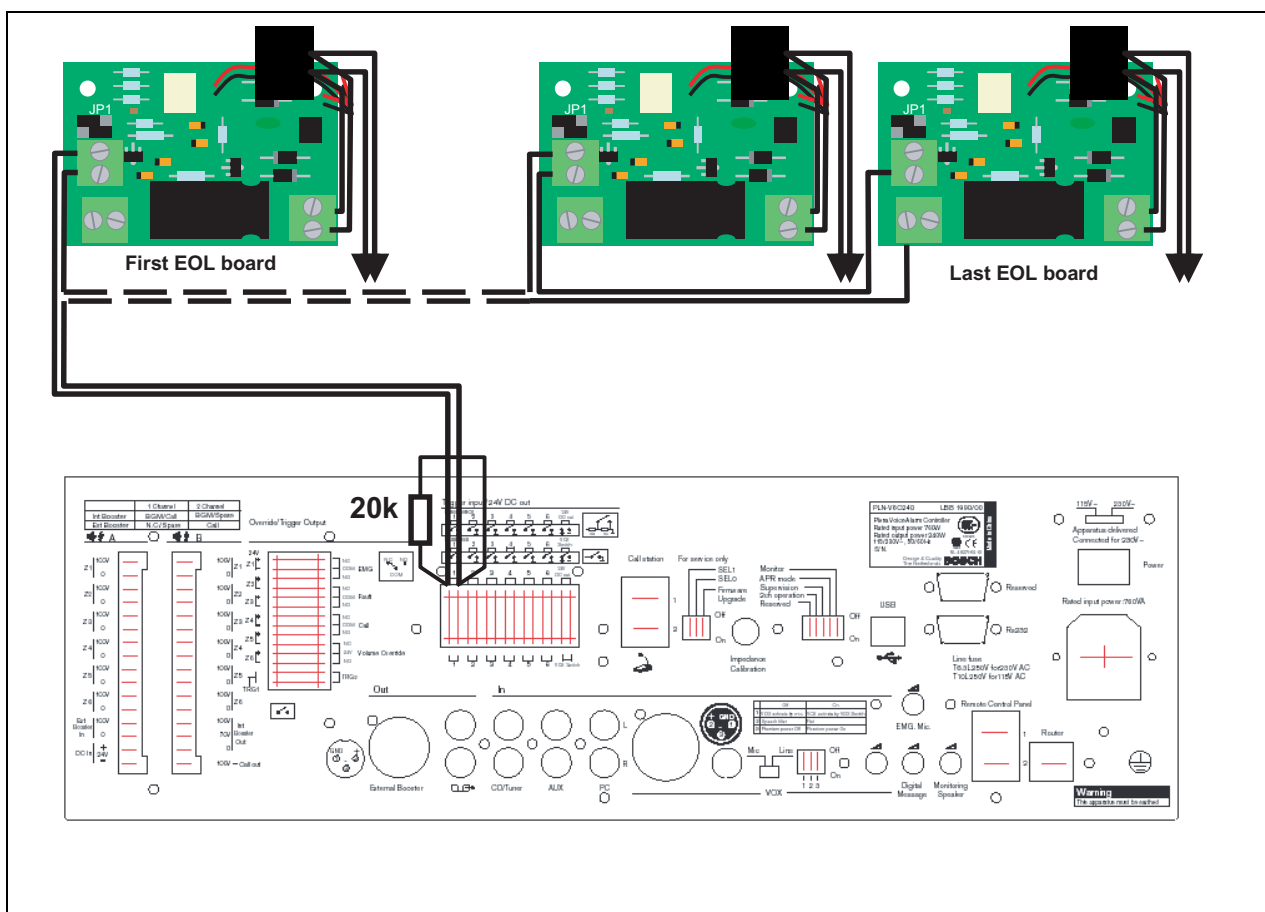

figure 14.3: Trigger input indication
- 4 Connect the EOL boards to the Trigger input as indicated in figure 14.3. This input should be on the Controller or Router to which the loudspeaker lines it supervises are also connected.